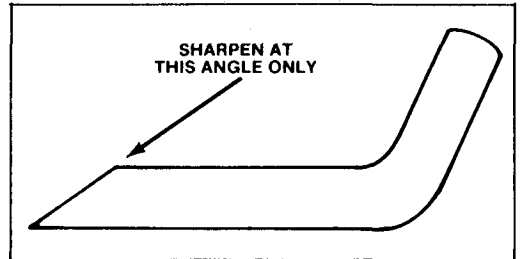

Figure 18
6. **SHARPENING BLADE** — Using a file, sharpen top side of blade and maintain original cutting angle (Fig. 18). The blade will remain balanced if same amount of material is removed from both cutting edges.